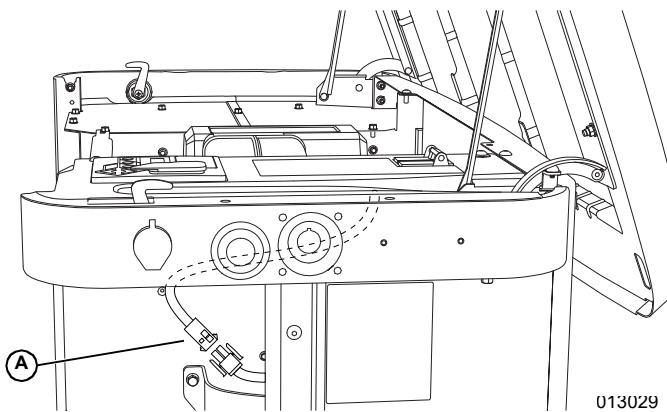

Figure 1-34. T1 Connection
2. See **Figure 1-34**. Disconnect AC power at the T1 connection (A).
2. See **Figure 1-34**. Connect AC power at the T1 connection.